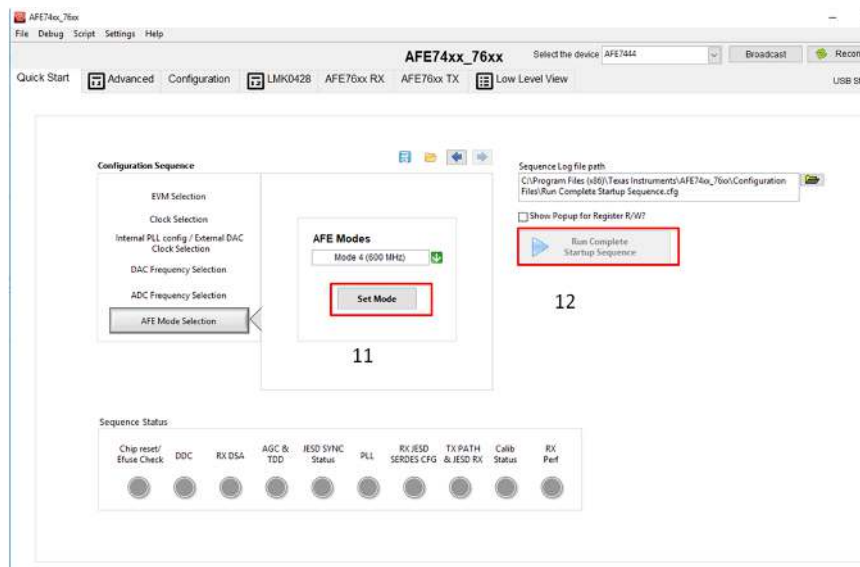

Figure 14. Set Mode and Run Complete Startup Sequence
11. Click the *Set Mode* button, labeled as 11 in Figure 14. *Set Mode* initializes the AFE74xxEVM and programs the LMK for the selected mode. Verify that the LMK on the EVM is locked by checking that LED D7 titled *LMK Lock* is illuminated.
12. Click *Run Complete Startup Sequence*, labeled as 12 in Figure 14. *Run Complete Startup Sequence* begins to program the AFE74xxEVM when pressed. Programming the AFE74xx EVM only takes a couple of seconds.